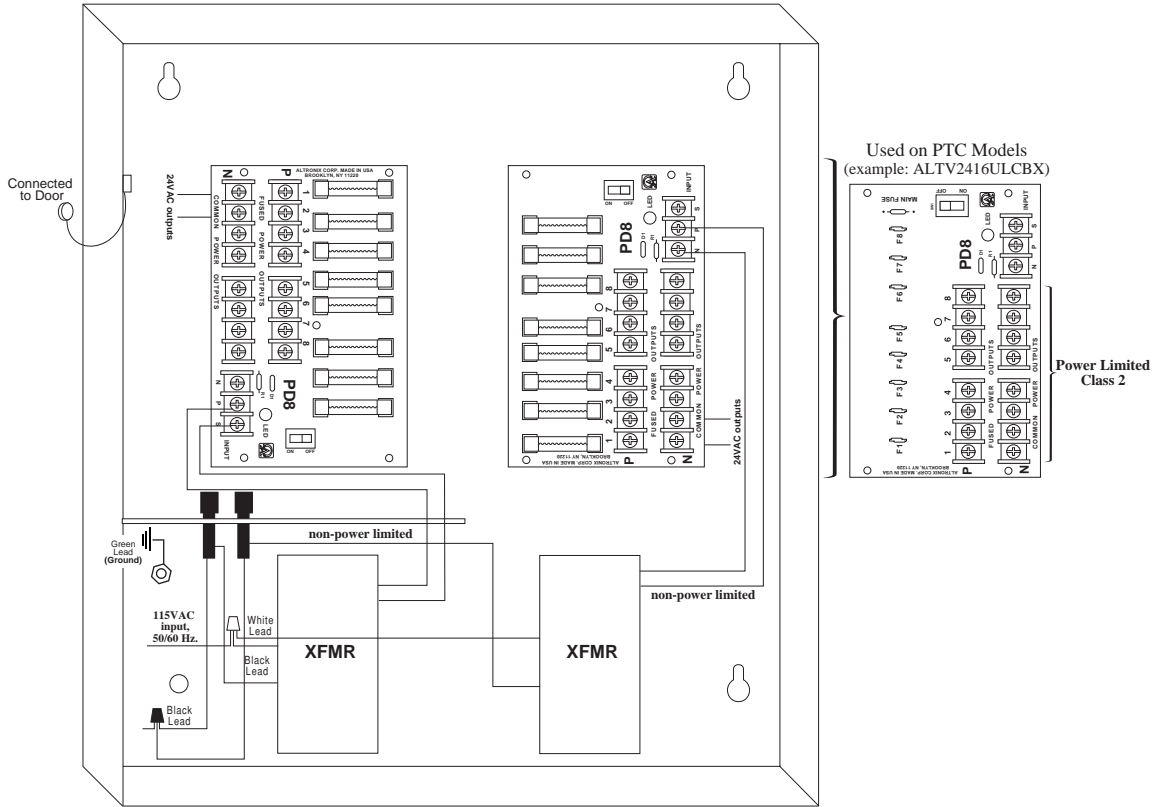

Fig. 2
6. Connect devices to terminals marked [1P - 1N through 8P - 8N] on PD8 board (Fig. 4, pgs. 6), or terminals marked [1P - 1N through 16P - 16N] on PD16W/PD16WCB board (Figs. 2 & 3, pgs. 4-5), carefully observing polarity.